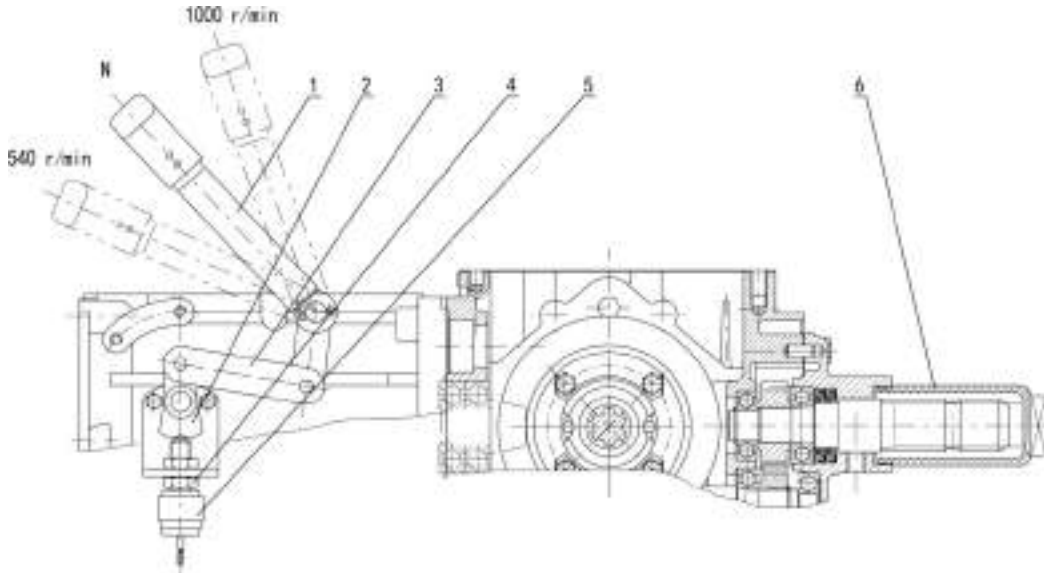

Fig 6-7 Adjustment on PTO
According to the instruction, push and pull power output joystick (1) to change gear control, ensure that the shift can be smoothed smoothly(see fig.6-7).
Loose lock nut 4, adjust safety start switch 5; When PTO is in neutral, the switch contact is in the groove of the PTO rocker (2); When push and pull power output joystick (1), the distance between the contact head and the PTO rocker(2) is reduced by 2~3mm, then lock the nut (2) (see fig.6-7).